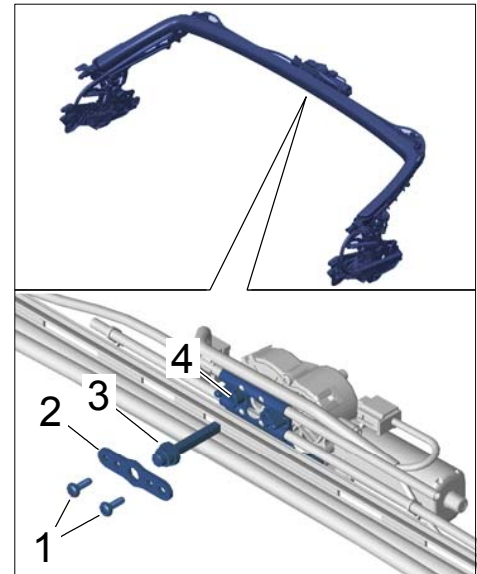

Figure 12
- 6.1 Unscrew fastening screws $\Rightarrow$ Figure 12 -1- and remove drive plate $\Rightarrow$ Figure 12 -2-.
- 6.2 Pull pinion shaft $\Rightarrow$ Figure 12 -3- out of the drive tubing $\Rightarrow$ Figure 12 -4-.